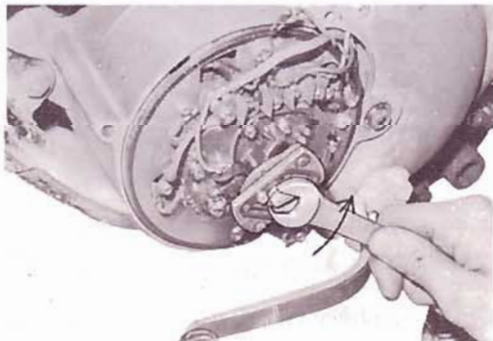

Fig. IV-7-4
- A. Remove the armature bolt, governor, and cam. (Fig. IV-7-4 and 5)